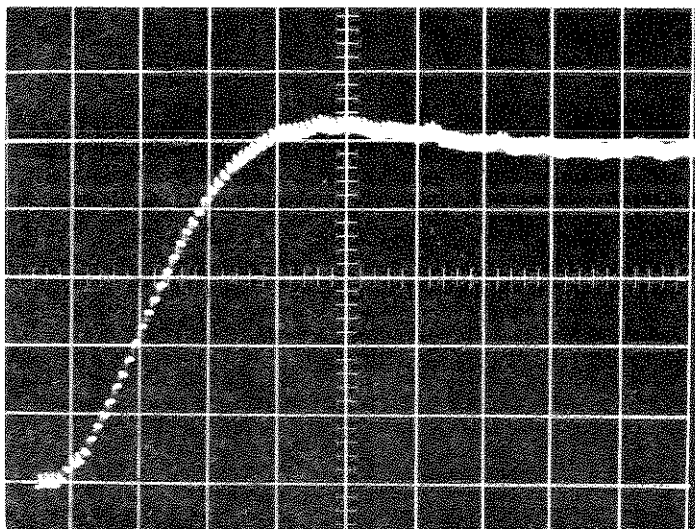

FIGURE 8. Typical 10-90% Rise Time on 100 Microvolt Range. Scale is 20 mV/cm vertical and 0.1 sec/cm horizontal.
2. Apply +100 microvolts with the Model 260 to the input and observe the 10-90% rise time on the Model 503 Oscilloscope. This rise time must be less than 1 second and typically is less than 1/2 second. (Figure 8 shows a typical rise time of the Model 155 on the 100 microvolt range).